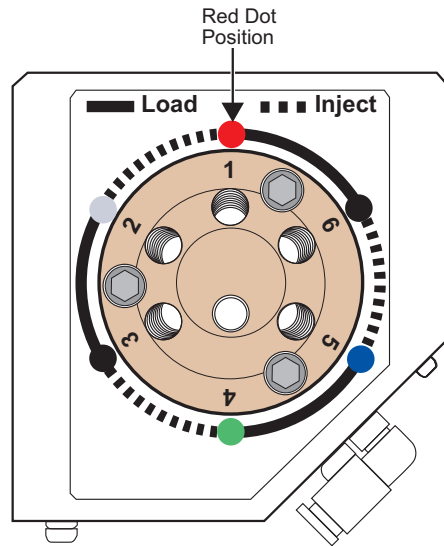

Figure 16
Before disassembling the valve, ensure that port "1" on the stator is situated in the red dot position as shown in Figure 16.
- 2 Replace the stator. At this time, orient it so that the port “1” on the stator is in the red dot position as shown in Figure 16. Insert the three socket head screws and tighten them gently until both are snug. Do not over-tighten them - the screws simply hold the assembly together and do not affect the sealing force, which is automatically set as the screws close the cap against the valve body.